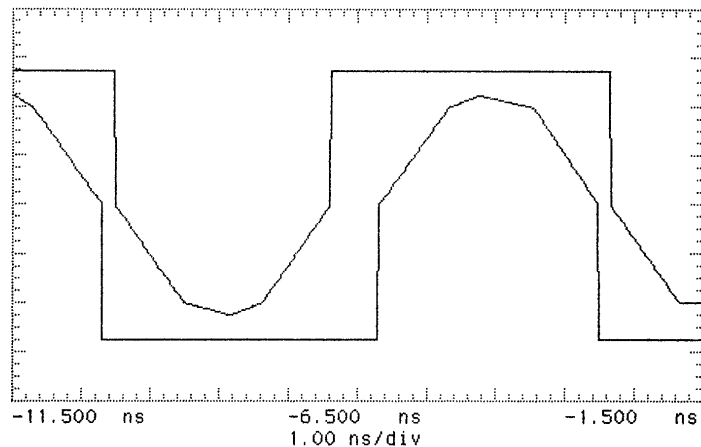

Figure 3-20
89. Press SHIFT **AUTOSCALE** on the oscilloscope to automatically align the pulse to the mask. Verify that the pulse falls within the mask as shown in Figure 3-20.
95. Press SHIFT **AUTOSCALE** on the oscilloscope to automatically align the pulse to the mask. Verify that the pulse falls within the mask as shown in Figure 3-20.
If your oscilloscope does not have the Mask feature, obtain a printout of the displayed pulse. Place the mask shown in Figure 3-20 over the pulse and ensure that the pulse falls within the mask (a transparent copy of the mask should be used).